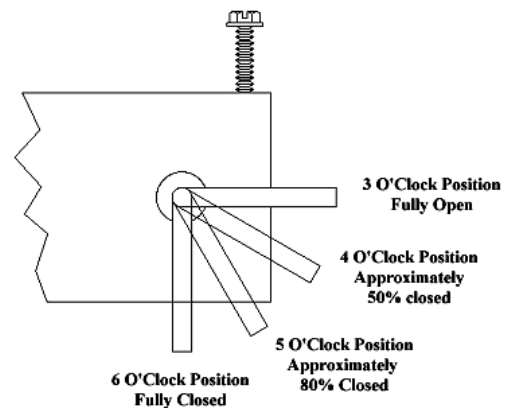

Figure 5
The purpose of this damper is to adjust combustion airflow to match the characteristic of each specific air inlet and chimney configuration. There is a setscrew in the damper (shown in Figure 5) and the damper has been preset at the factory. This setting will most likely work for 90% of the most common installations. Long horizontal runs might need the damper opened. Tall vertical runs might need the damper to be closed a little, etc. To adjust the damper, use the setscrew to make the adjustments. To make an adjustment turn the screw  $\frac{1}{2}$  turn clockwise to open the damper or  $\frac{1}{2}$  turn counter clockwise to close the damper. Remember to use the damper handle to bring the damper up to the screw. The damper will not close by itself. After making an adjustment wait at least 15 minutes to see how the burn pot reacts to the change. **Adjusting the damper during the break in period is very**
- d. Use the “scraper” provided to move the burning pellets to one side of the grate, leaving the ash in the bottom of the grate. (See Fig 5 & 6)